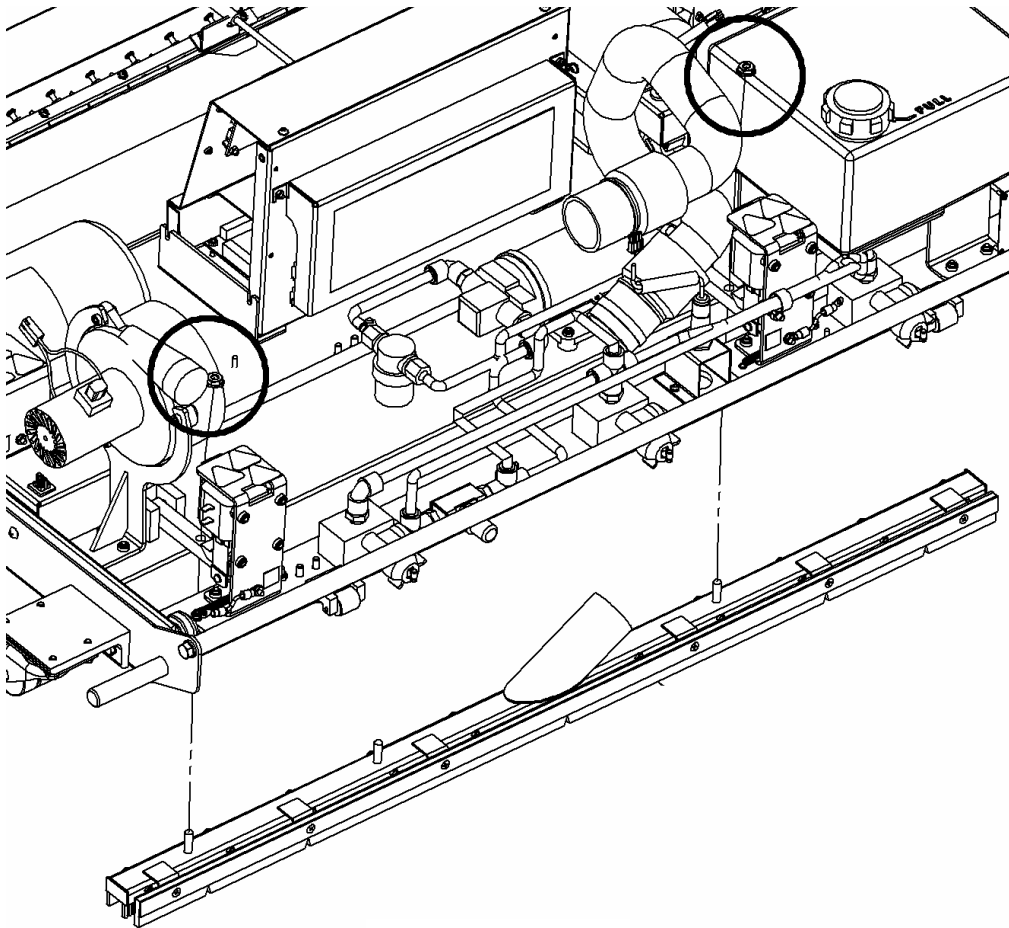

Figure 4-13
3. Remove the two 5/16 nuts to release the vacuum head from the machine, as shown in Figure 4-13, and remove the vacuum head from the **bottom** of the machine. Stand the machine up in the **storage** position.